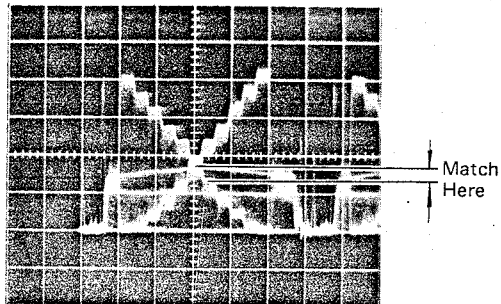

Fig. 6-4-33
- Adjust BLUE TRACKING-1 VR313 so that the B signal matches the Y_L signal in the 4th~5th step of gray scale waveform. (Fig. 6-4-33)